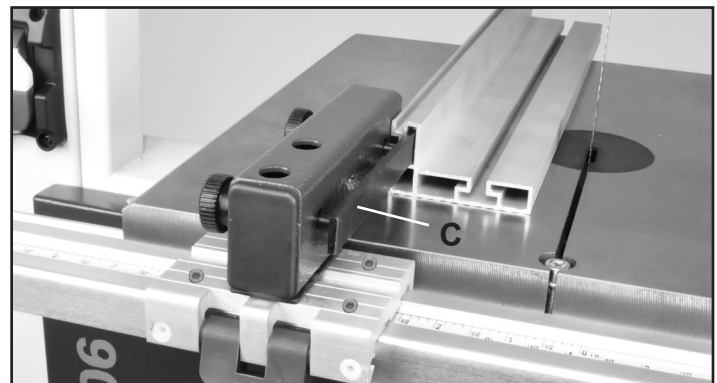

FIGURE 32
- Slide the fence forward to remove it from the carrier's Locking Frame Bar (#105, FIG. 32, C).
- Slide the fence forward to remove it from the carrier's Locking Frame Bar (#105, FIG. 32, C). Move the carrier on the front rail to the right side of the table and blade.